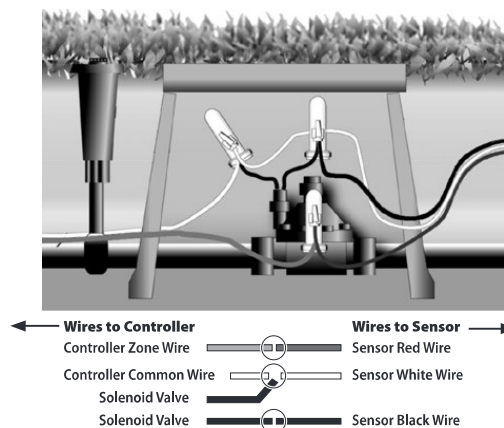

Figure 5
7. In the valve box, disconnect the marked zone wire from the valve and connect it to the extension cable wire previously attached to the Red sensor wire. No other wires should be attached to this connection. Re-connect the disconnected valve wire to the Black sensor wire extension. Connect the White sensor wire extension to the common wire in the valve box. Make sure all valves in the valve box share the same common connection with the White sensor wire (see Figure 5). Use grease caps for all connections after confirming proper system operation (see wiring diagram included in your kit).